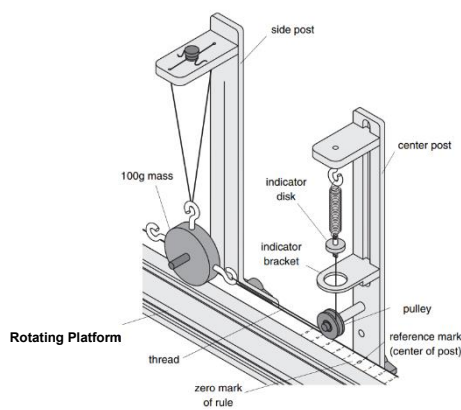

Fig. 4: Threading the Centripetal Force Accessory
- (vi) Thread the Centripetal Force Accessory (See Fig. 4)